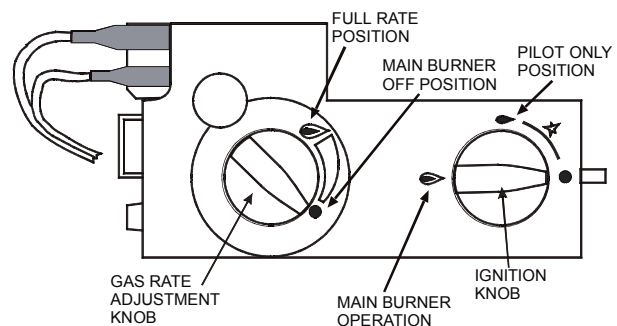

Figure 5 - Gas Valve
5. Turn the IGNITION KNOB anticlockwise to the Main Burner Operation position as shown in Figure 5.